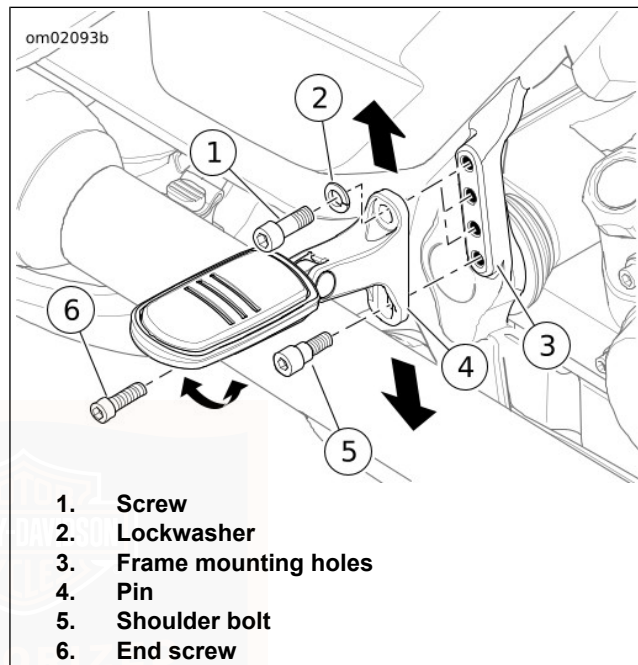

Figure 32. Passenger Footrest: FLHX, FLHXS, FLTRX, FLTRXS, FLHRXS
See Figure 32. If the bracket does not slide up or down, loosen but do not remove the lower shoulder bolt (5).
1. Remove the upper bracket screw (1) and lockwasher (2).
1. See Figure 32. Loosen the end screw (6).